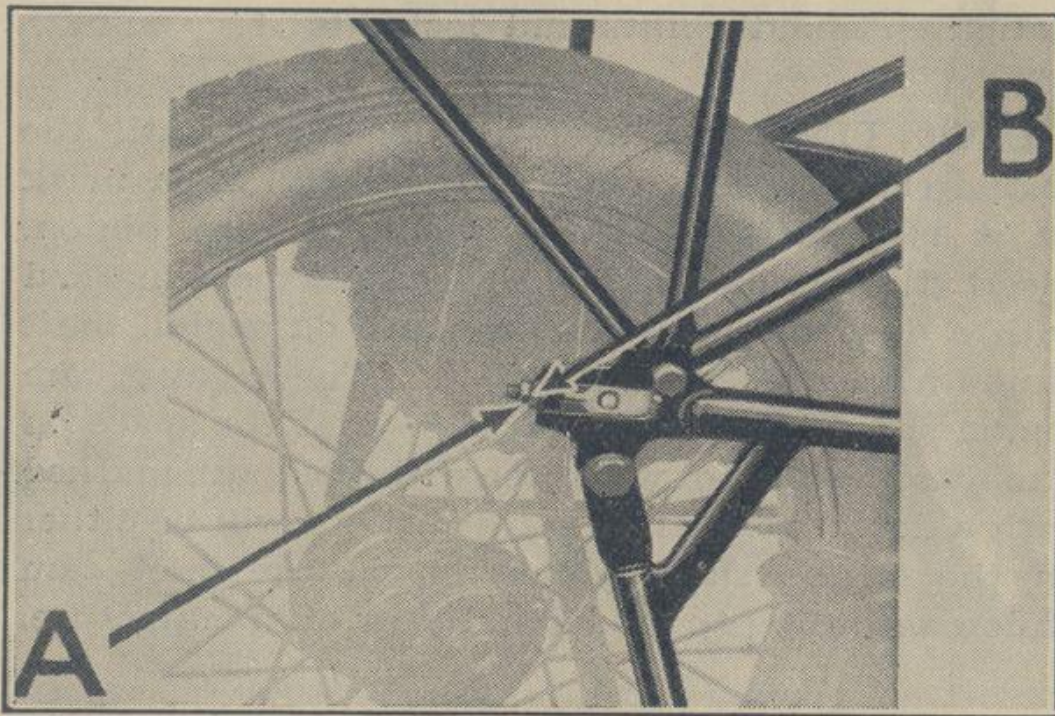

Fig. 19.
9.86 h.p. (1930-1935). Slacken the hub spindle nut on each side of the wheel and release the locknuts *A* on the adjuster (Fig. 19). Turn nuts *B* alternately, one half turn at a time, until about half-an-inch sag can be felt in the chain through the inspection hole (rear chaincase models only). Retighten spindle nuts and locknuts *A*.